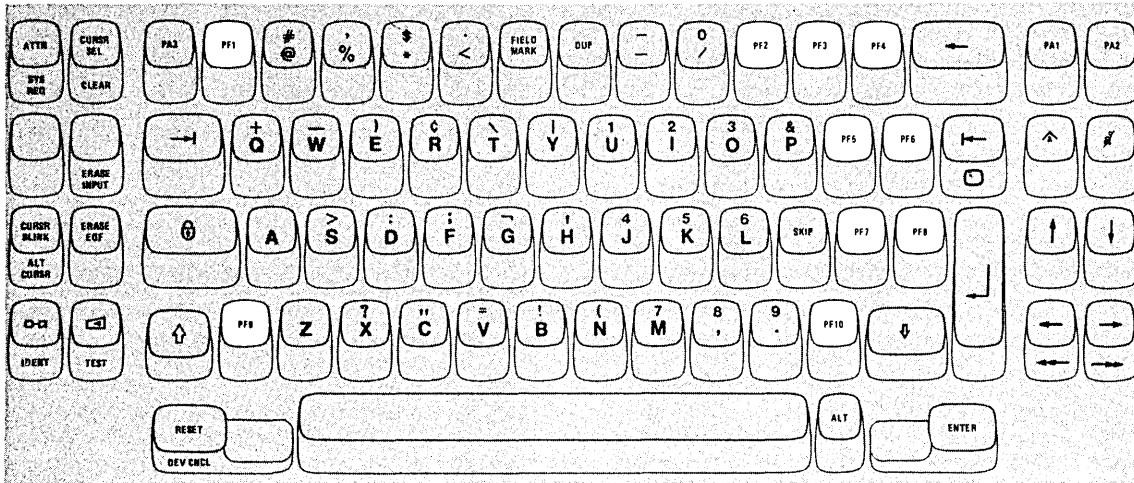

Figure 3-17. Program Function (PF) Keys
Application programs can assign programmable functions to the Program Function (PF) keys. On the Data Entry keyboards there are 10PF keys (Figure 3-17).